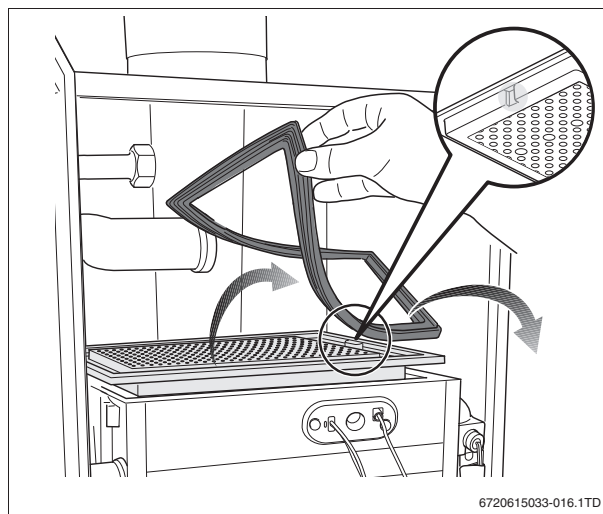

Fig. 15 Re-installing the burner plate
- Refit all parts in reverse order. When re-installing the burner plate, make sure that the notch is on the right-hand side (→ fig. 15).